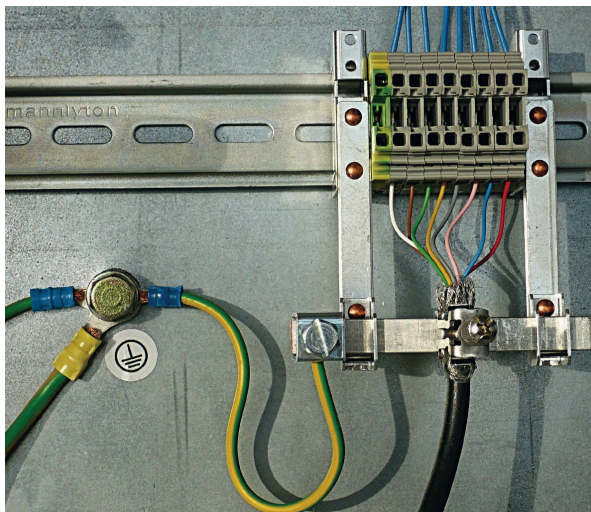

Figure 7.2: Connecting the cable shielding in the switch cabinet
- ↳ Clamp the shield in the switch cabinet flat to FE (see figure 7.2).